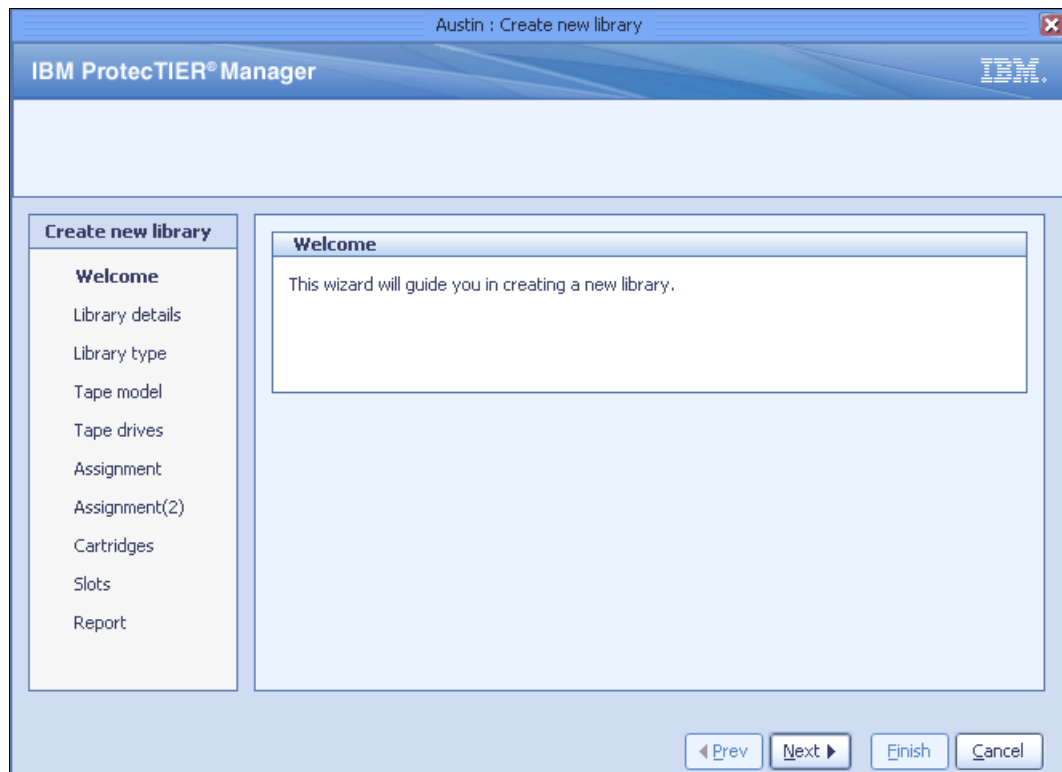

Figure 5-67 Create new library Welcome window
3. From the menu bar, select **VT** → **VT Library** → **Create new library**. The Create new library wizard Welcome window opens (Figure 5-67).